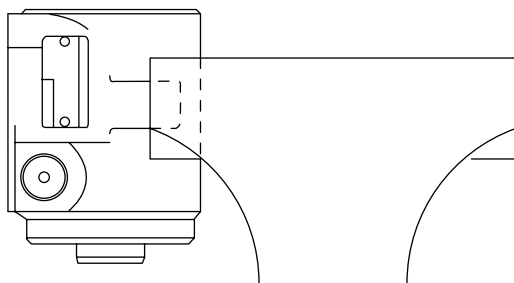

Figure 5
- 19** Clamp the housing in a vise as shown in Figure 5. Use just enough clamping force to hold the housing securely.